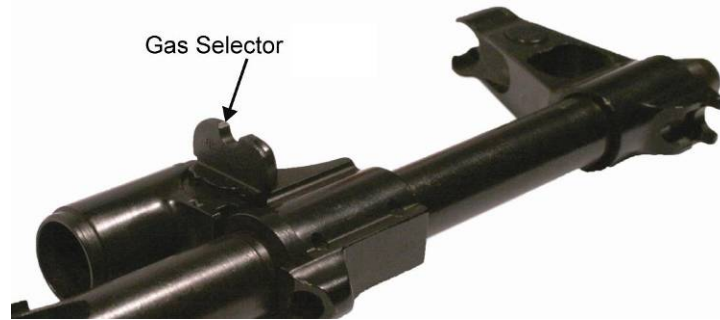

Figure 5. Gas Selector in the UP Position.
- a. The gas selector must be in the UP position, indicating normal use. Refer to Figure 5.